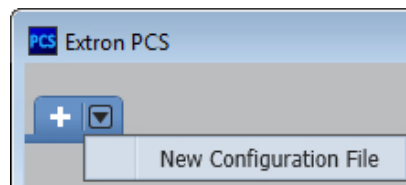

Figure 15. Configuration Drop-down List
1. In the **Start-up** tab drop-down list, select **New Configuration File** (see figure 15).